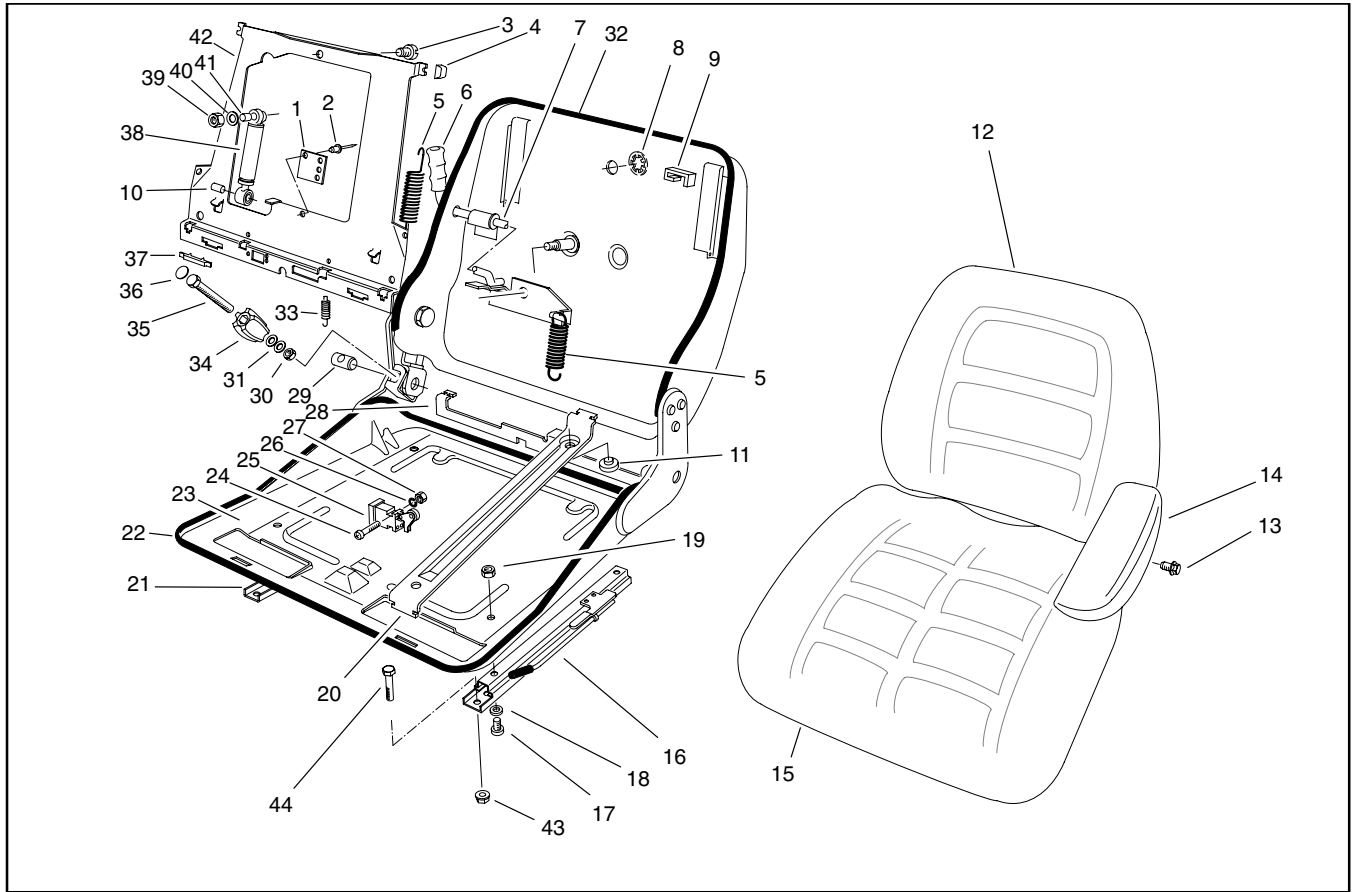

Figure 6
4. Remove seat parts as necessary to make repairs using Figure 6 as a guide.
1. Install any new seat parts using Figure 6 as a guide.